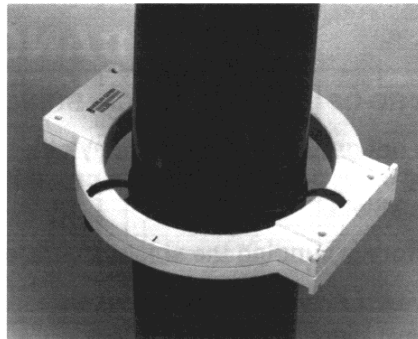

Figure 84: CT assembly mounted on MV cable
- on the MV cable (CSH 120, CSH 200); see figure 84